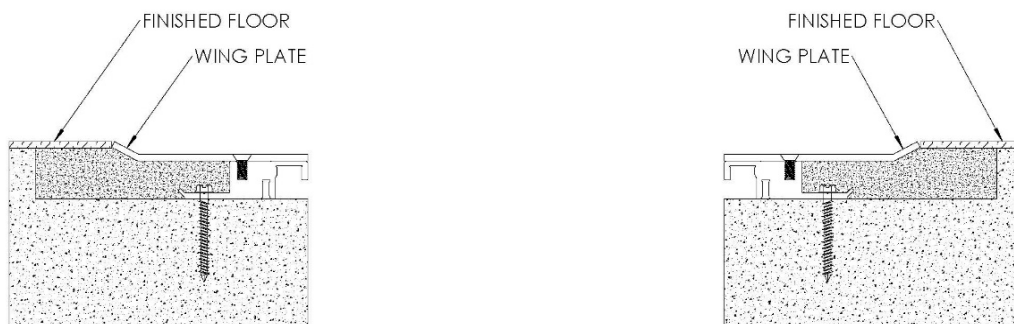

FIGURE 5
5. Finish floor (by others) may be installed after grout has cured. **See Figure 5**